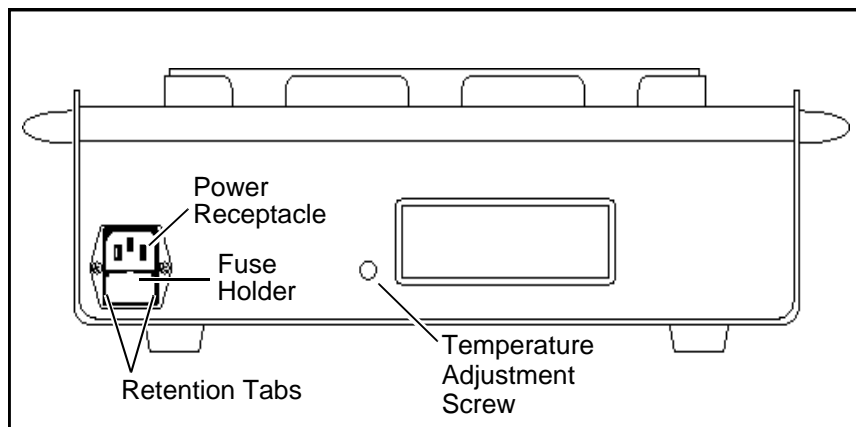

Figure 4: Rear View of LCx Dry Bath
4. If the indicated temperature is not 97°C ($\pm 1^{\circ}\text{C}$) turn the adjustment screw located on the rear of the LCx Dry Bath (see Figure 4). Turning the adjustment screw clockwise increases the temperature setting.
2. Locate the fuse holder below the power receptacle (see Figure 4).